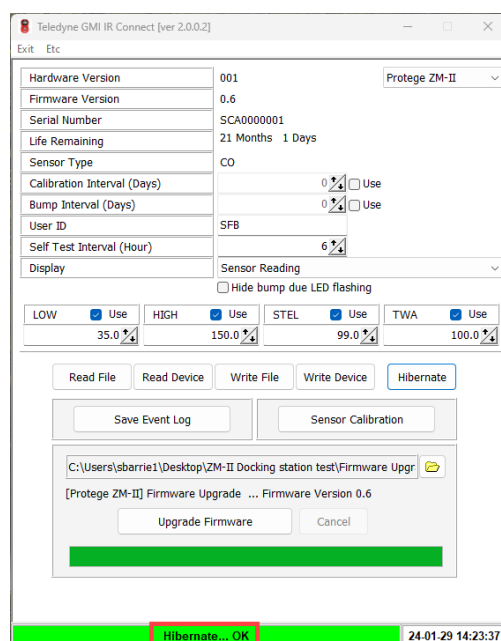

Figure 6-3: IR Connect - Hibernate OK
4. A successful hibernation is indicated by a green OK bar at the bottom of the application window, as illustrated in Figure 6-3.